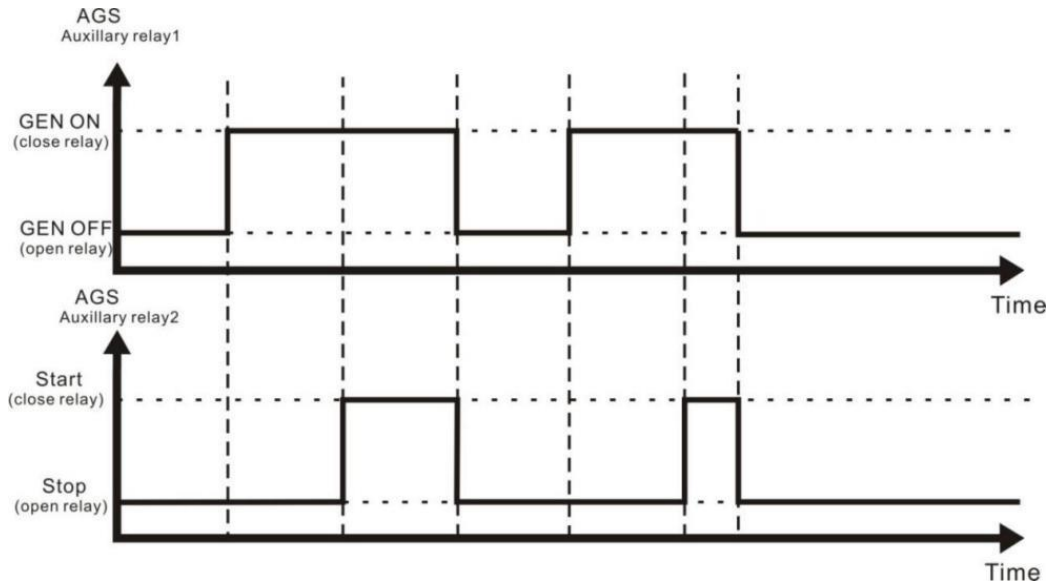

Figure 27 Three wires: Automatic Generator Start
- **Three wires:** needs two relays to control the generator. Relay 1 controls the “ON” and “OFF” of generator. Relay 2 control the “Start” and “Stop” of generator. Please refer to following Figure 27.